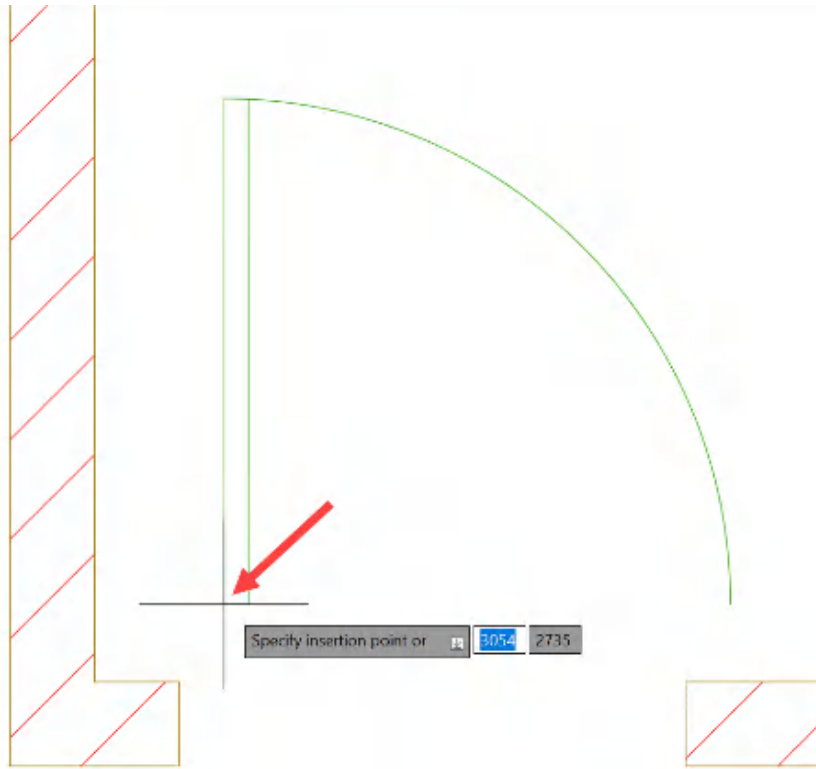

Figure 11.31: The Door-DYN block with the Basepoint parameter arrowed
4. Select the **Door-DYN** block on the dropdown to insert it into the drawing. You will see the block on the cursor using the **Basepoint** parameter you set on the lower-left corner of the block. This is shown in *Figure 11.31*.